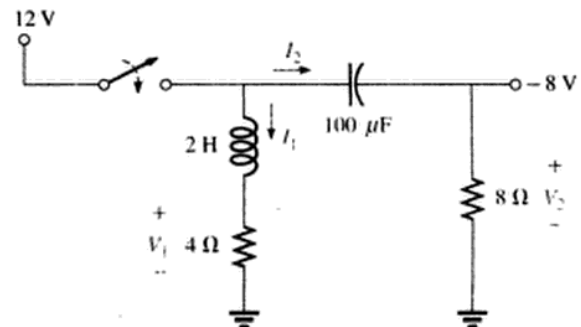

FIG. 11.110
45. Find the steady-state currents and voltages for the network in Fig. 11.110 after the switch is closed.